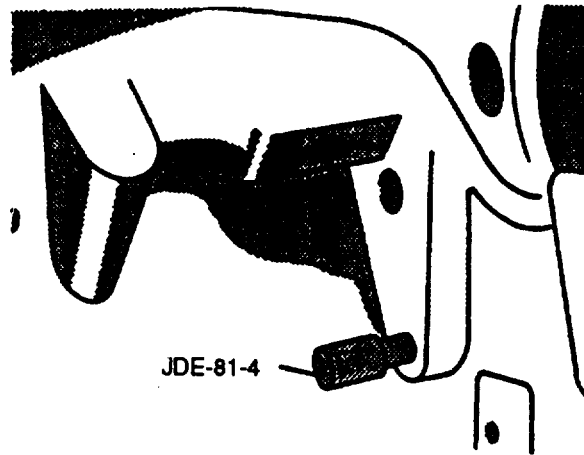

FIGURE 3-97. Installing Timing Pin
- f. Set No. 1 piston at TDC compression stroke and install timing pin (JDE81-4) in flywheel, refer to FIGURE 3-97.
b. Using center bolt on harmonic balancer, rotate crankshaft clockwise and observe No. 1 pushrods. When both pushrods can be rotated freely engine is on compression stroke. Continue to rotate engine until timing pin (JDE81-4) can be installed in flywheel, refer to FIGURE 3-97.